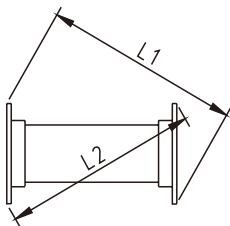

Fig.11 Rectangle duct
(10) The absolute value of difference between diagonal lines of rectangle flange should be $|L1 - L2| \leq 3$, as shown in fig.11.